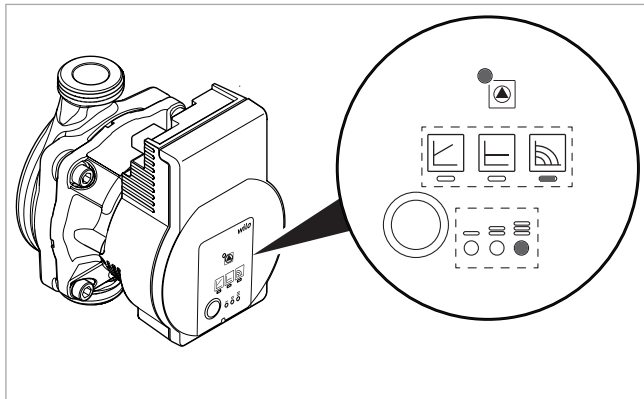

Fig. 122: Basic setting (constant speed, characteristic curve III)
** Press the 9th button to return to the basic setting (constant speed, characteristic curve III, see → Fig. 122).